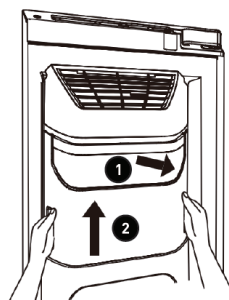

Figure 1
- ①: Lift the ice storage bin slightly
- ②: pull it out as shown in the figure 1